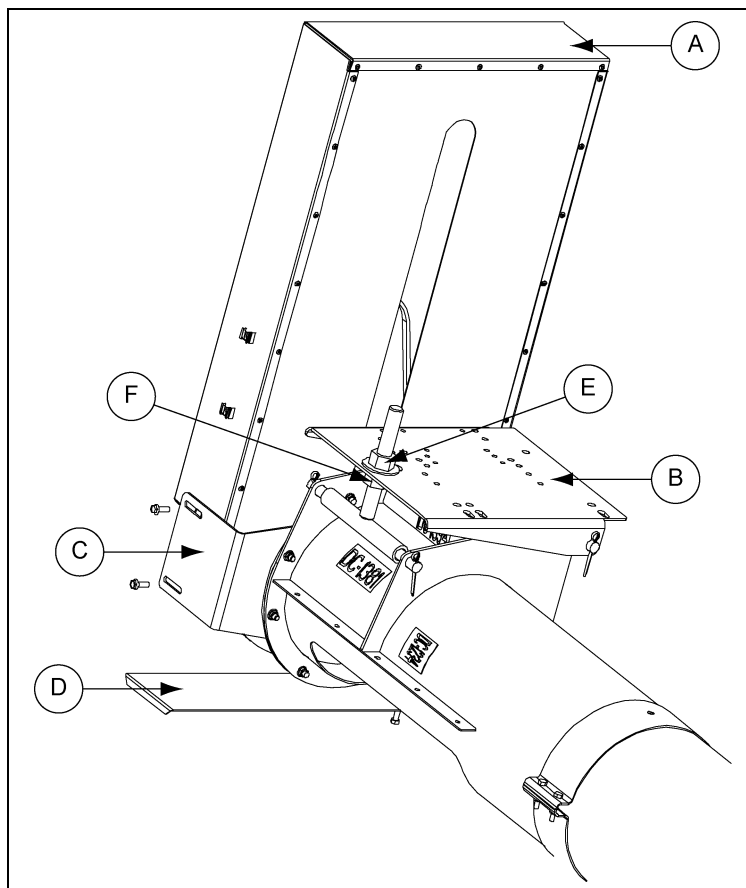

Figure 4J
3. Once the desired tension is reached, tighten the upper motor mount adjustment nut down onto the motor mount plate to lock it into place. *(See Figure 4J on Page 21.)*
1. With the belts properly tensioned, remove the bottom belt guard cover (D) and slip belt guard down over motor shaft.
2. Bolt the belt guard (D) to the belt guard mounting brackets (C). Note that the brackets should still be loose at this time.
3. Align the motor shaft and the flight drive shaft in the belt guard's slot, making sure that the belt guard DOES NOT contact either pulley or shaft and tighten down the belt guard mounting brackets (C) to the bearing plate. (See Figure 4J.)
4. Once the brackets are tightened, slide the bottom cover (D) back into place and secure with supplied bolt.